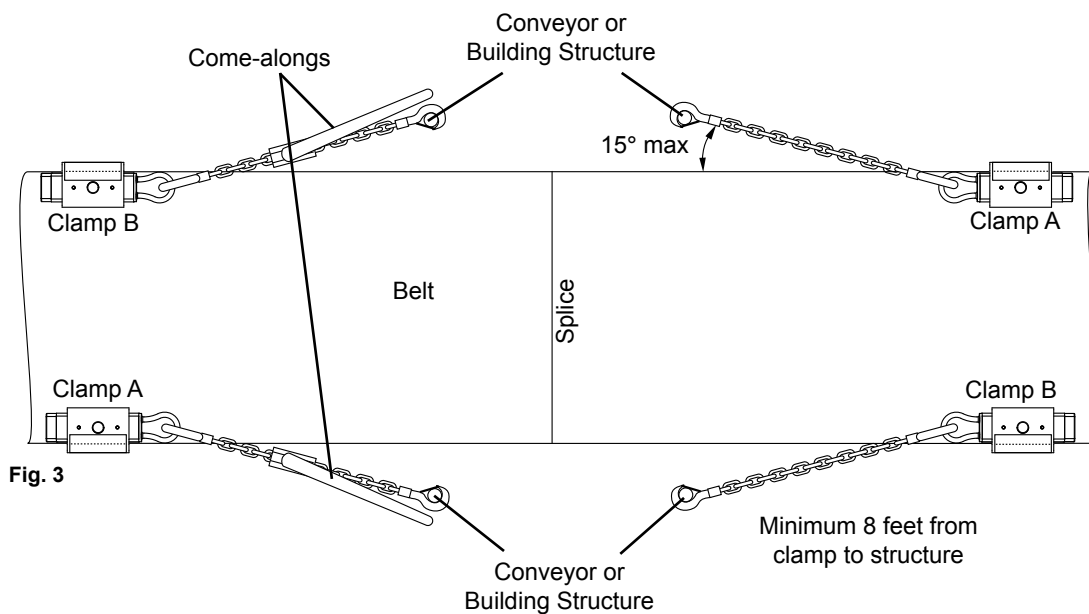

Fig. 3
- b. **Clamp-To-Structure:** On one side of the splice, attach chains to pull loop of clamp and to conveyor structure (Fig. 3). On other side of splice, attach come-alongs to pull loop of clamp and to conveyor structure. It is important to secure to structure at least 8 feet back, so as to keep the angle of pull less than 15°.